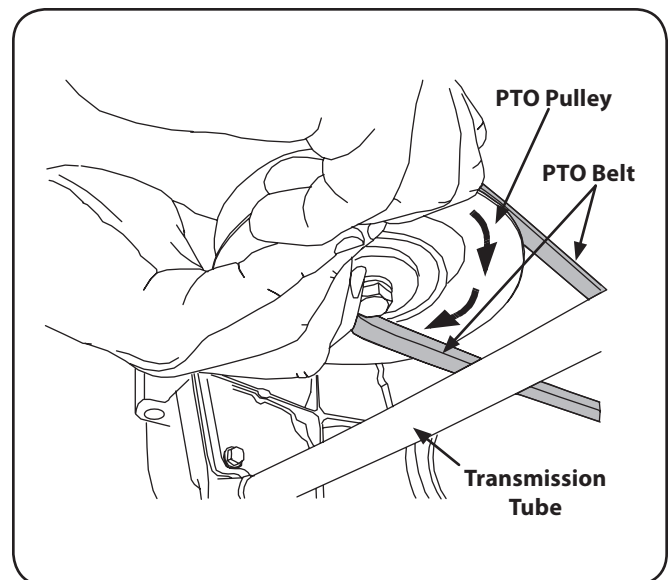

Figure 7-5
4. While still holding the belt downward, continue turning the PTO pulley until the belt is rolled off the pulley. Refer to Figure 7-5.
10. Pull the right side of the belt rearward and place the narrow V side of the belt into the PTO pulley. See Figure 7-5.
11. While holding the belt and pulley together, rotate the pulley to the left (See Figure 7-5). Continue holding and rotating the pulley and belt until the belt is fully rolled into the PTO pulley.